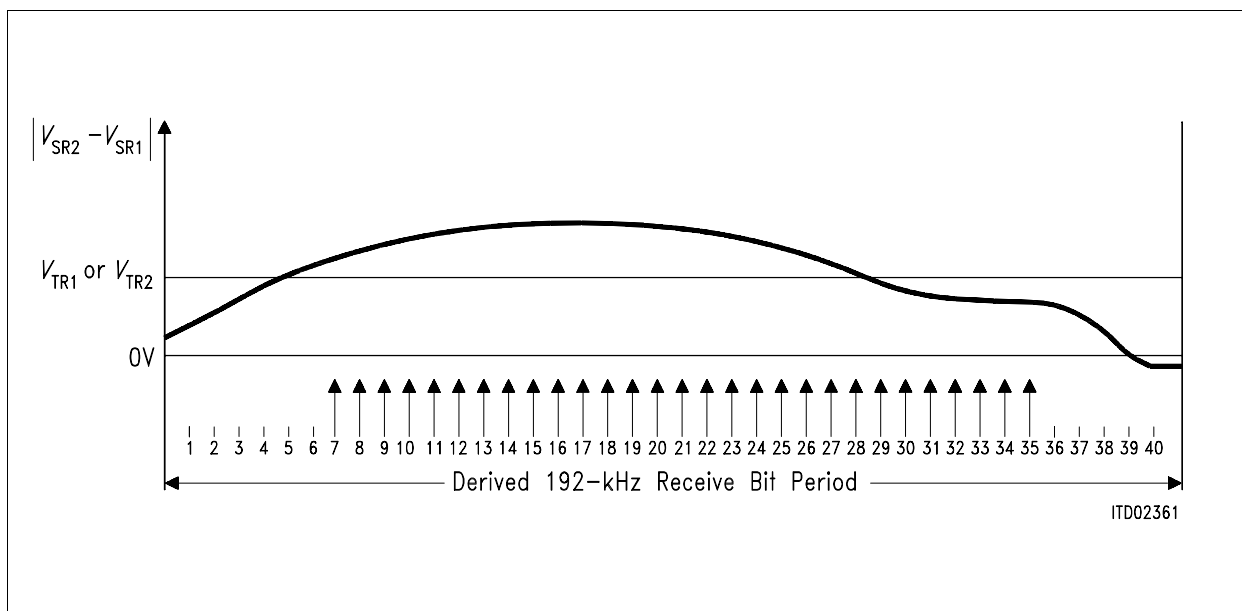

Figure 19 Receive Signal Oversampling in S/T Receiver
- As illustrated in **Figure 19**, each received bit is sampled 29 times at 7.68-MHz clock intervals inside the estimated bit window.